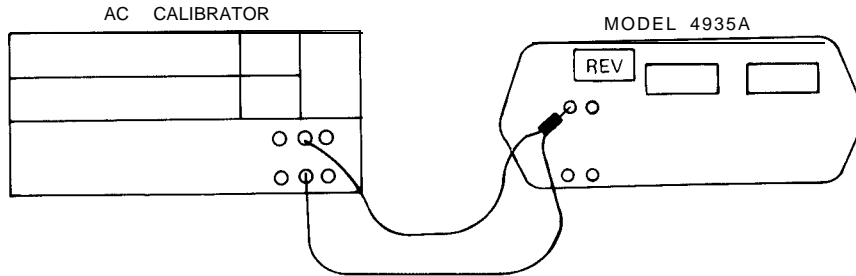

Figure 4-14. P/AR Test
1. Connect equipment as shown in Figure 4-14. On 4935A select: